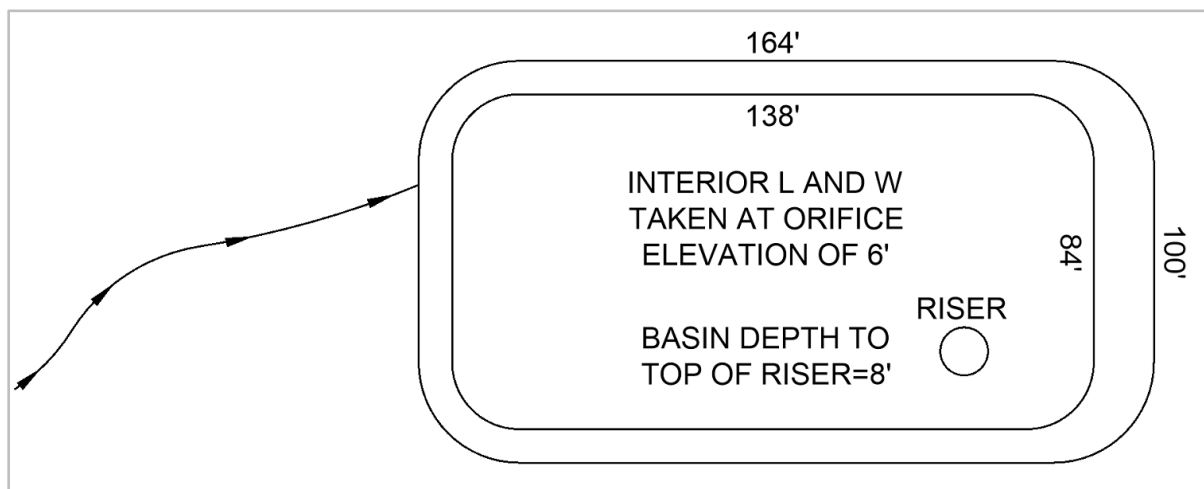

Figure 8-6. Plan View of Sediment Basin
7. Use the basin shown in Figure 8-6 to answer the following questions. Note that the basin is designed for a total drainage area of 15 acres.
Step 2: From the plan view of the sediment basin in Figure 8-6, determine the wet storage volume provided: